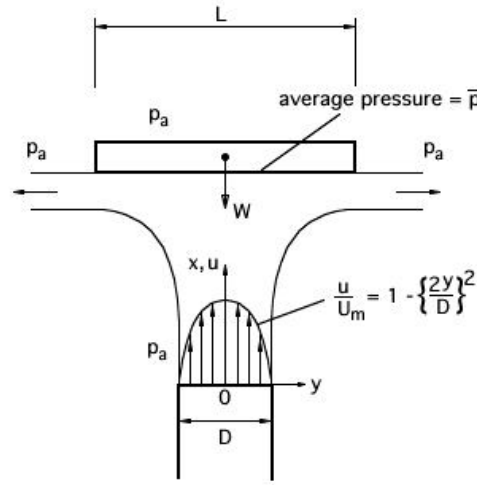

Figure P3.49
- D and depth a (into the page), as shown in Figure P3.49, with velocity distribution that is parabolic. The jet supports a plate of width L , depth a (into the page) and weight W , and the air is deflected horizontally. The side of the plate facing the jet experiences an average pressure p , and the pressure is atmospheric everywhere else. Ignore the weight of the fluid.